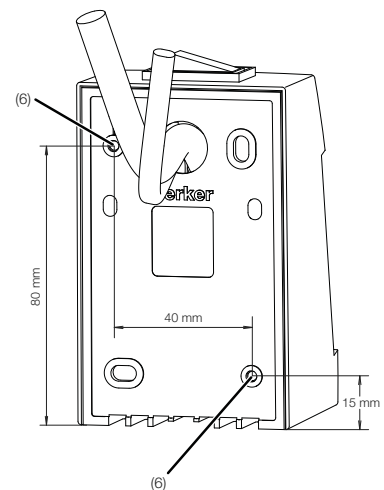

Figure 2: Dimensions for rear mounting of the complete device
The integro Box can also be screwed to the rear panel of the mirror cabinet in assembled state using the fastening points (6) provided (Figure 2). Suitable screws are available upon request.